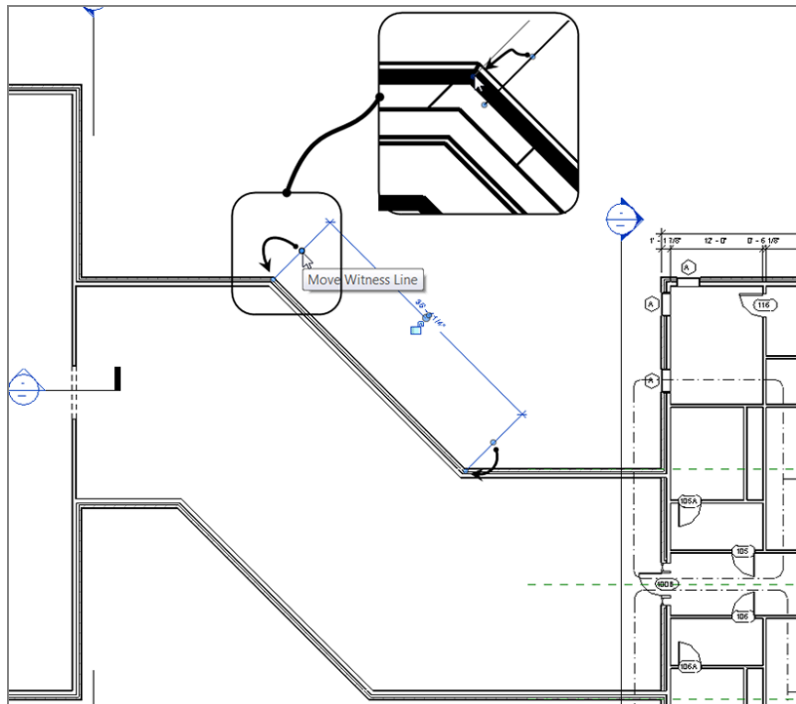

FIGURE 5.12: Dragging the witness line's grip
2. On the left side of the dimension, pick and hold the grip in the middle of the dimension line, as shown in Figure 5.12.
3. Drag the blue grip to the outside face of the brick. You'll know you're in the right spot because you'll see a small dot appear, as shown in the magnified segment of Figure 5.12.